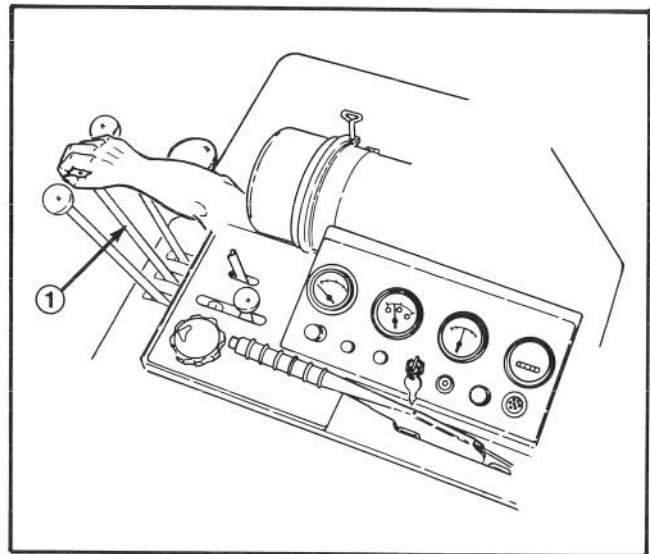

Figure 7
B. With parking brake "ON" start the traction unit and adjust the engine to half throttle. Be sure to release the lift arm lock lever for the #1, #2 and #3 cutting units and put the reel lift control for the #1, #2, and #3 cutting units in the lower position (Fig. 7). Release the lever and let it return to the neutral position.